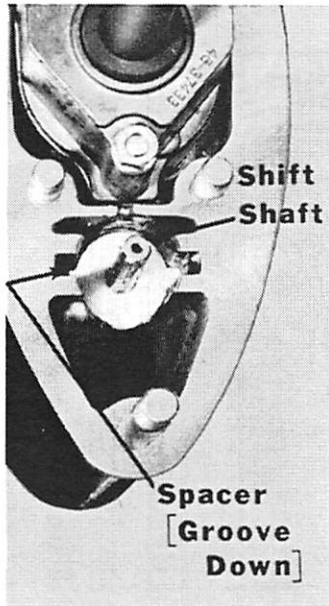

Figure 1. Spacer Installed
1. Install spacer over gear housing shift shaft with groove down. (Figure 1)